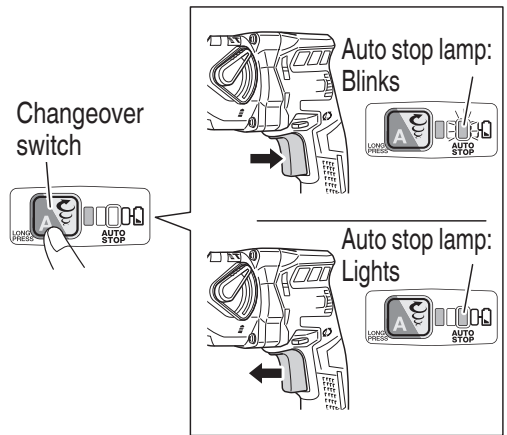

Fig. 27
- Auto stop mode (on/off) (**Fig. 27**)
In selection mode, pressing the changeover switch for longer than two seconds will move to memory mode. (**Fig. 27**)